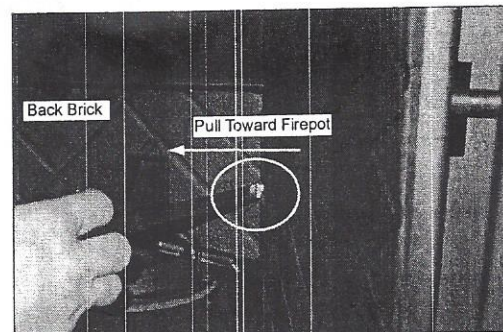

Figure 3
4. Using the brick removal tool, place it in hole in middle of right brick and pull straight towards the firepot. **Figure 3.**